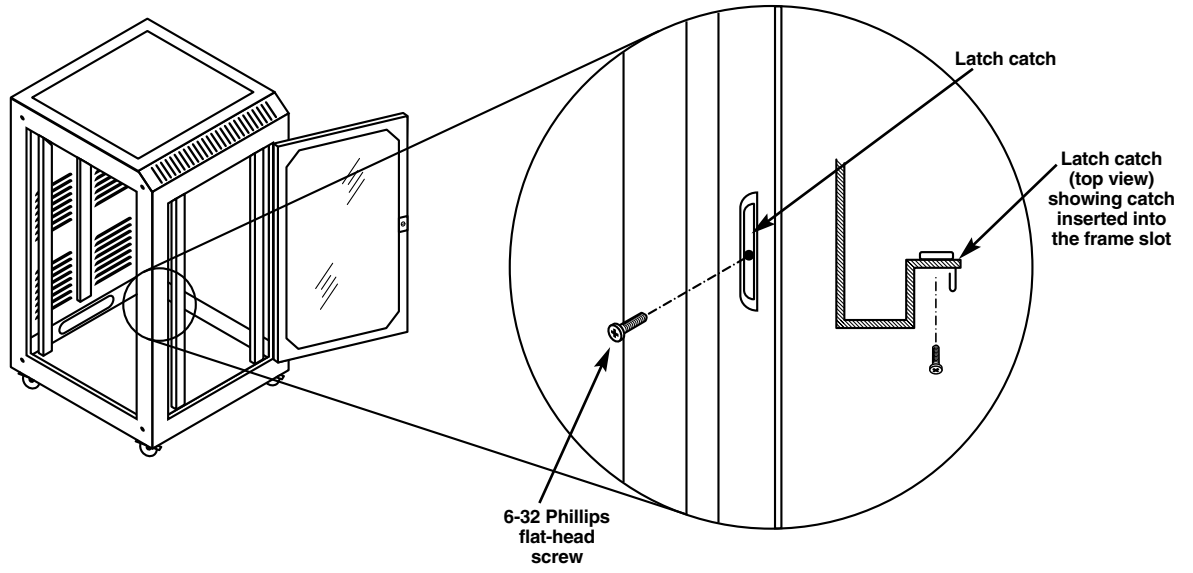

Figure 8. Relocating the latch catch.
5. The latch catch on both door frames can now be relocated to the opposite side of the door opening by removing one Phillips 6-32 flat-head screw from the center of the catch, pulling the catch out through the frame slot, and reinstalling it on the opposite side (Figure 8, on the next page).